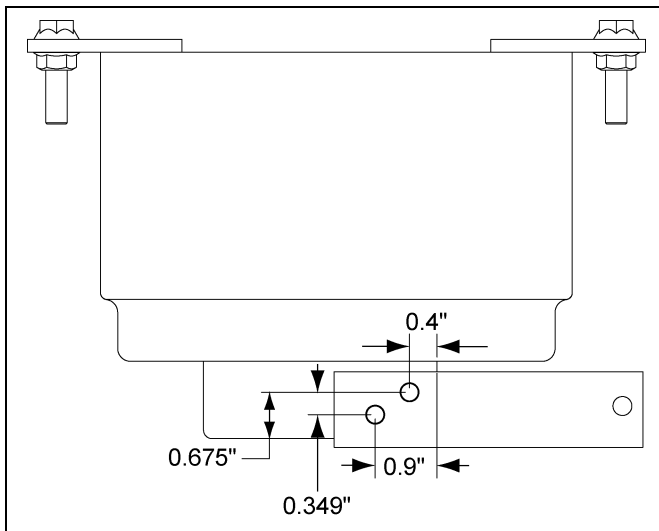

Figure 4I
- b. Fit handle extension onto safety disconnect switch as shown in Figure 4I on Page 20. Make sure to align holes so they fit in between stiffening ribs on underside of red handle.
- c. Make where 1/4" holes should be drilled out in red handle, approximate dimensions are shown in Figure 4I on Page 20. Remove handle extension and drill using 1/4" bit.